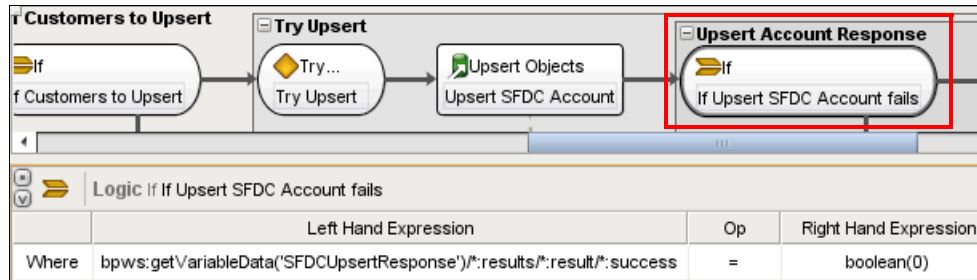

Figure 10-41 Validate that the upsert successful
4. The If Upsert SFDC Account Fails If-Then activity, validates that the upsert was successful by looking at the success element of the SFDCUpsertResponse variable (refer to Figure 10-41 on page 383).